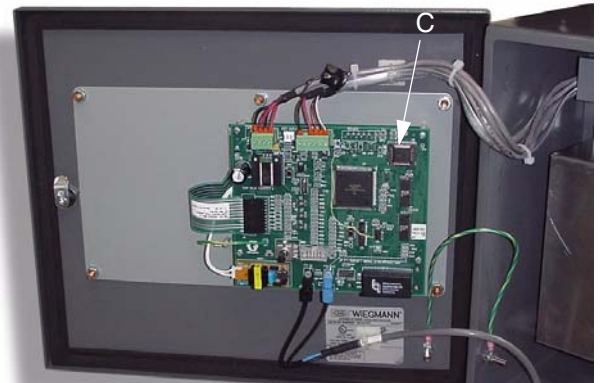

FIG. 6
3. Remove display board chip (C - FIG. 6) with removal tool.